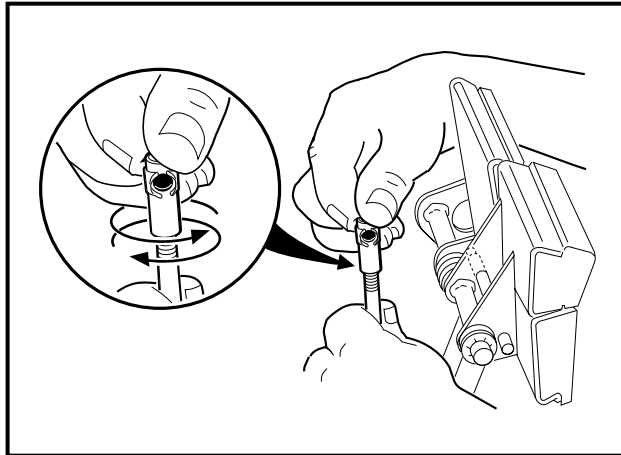

Figure 5-17 Brake Rod Adjustment
- 3.6. If ratchet/pawl engagement must be adjusted, disconnect the ball joint at the top of the brake rod and rotate the ball joint sleeve clockwise to increase engagement or counterclockwise to decrease engagement. Reconnect ball joint (**Figure 5-17, Page 5-19**).
- 3.6. If ratchet/pawl engagement must be adjusted, disconnect the ball joint at the top of the brake rod and rotate the ball joint sleeve clockwise to increase engagement or counterclockwise to decrease engagement. Reconnect ball joint **(Figure 5-17, Page 5-19)**.